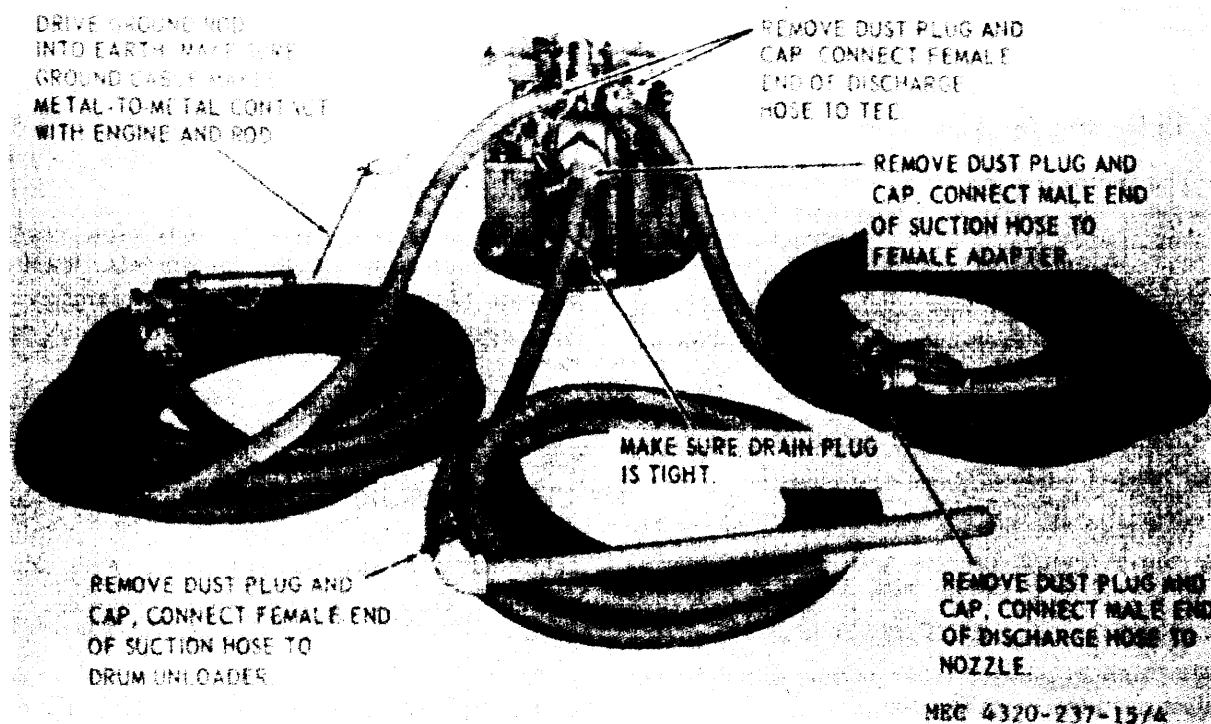

Figure 4. Pump installation and setup.
b. *Outdoor Installation.* Refer to figure 4 for installation and setup instructions.
a. Reverse the installation procedures illustrated in figure 4. Thoroughly drain all hoses. Install dust plugs and caps on hoses and fittings.